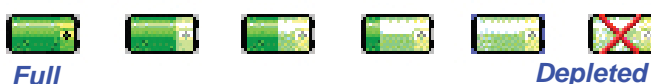

Figure 6-4 Battery Level Indicators
- **Battery Indicator:** Indicates that the instrument is being powered by a rechargeable battery. The amount of battery life left is denoted by the fill inside the battery icon. When the battery is low, the words “BATT LOW!” will appear on the screen and the unit will beep continually until it is plugged into its AC power cord for recharging. See Figure 6-4.